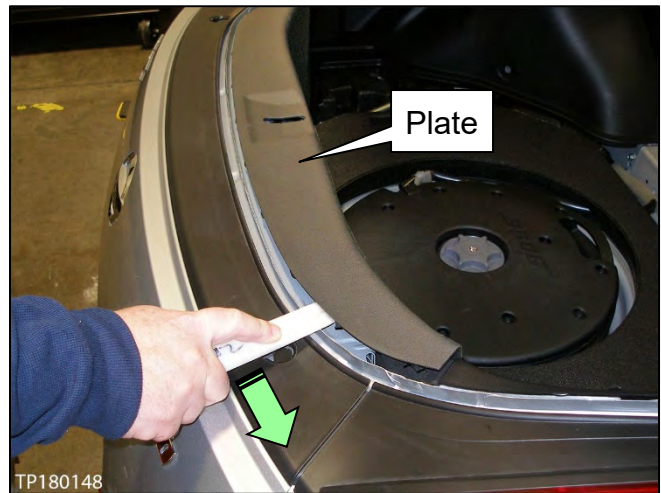

Figure 25
- c. Carefully unfasten the rear luggage plate upper clips with a suitable plastic pry tool (see Figure 25 and 26).